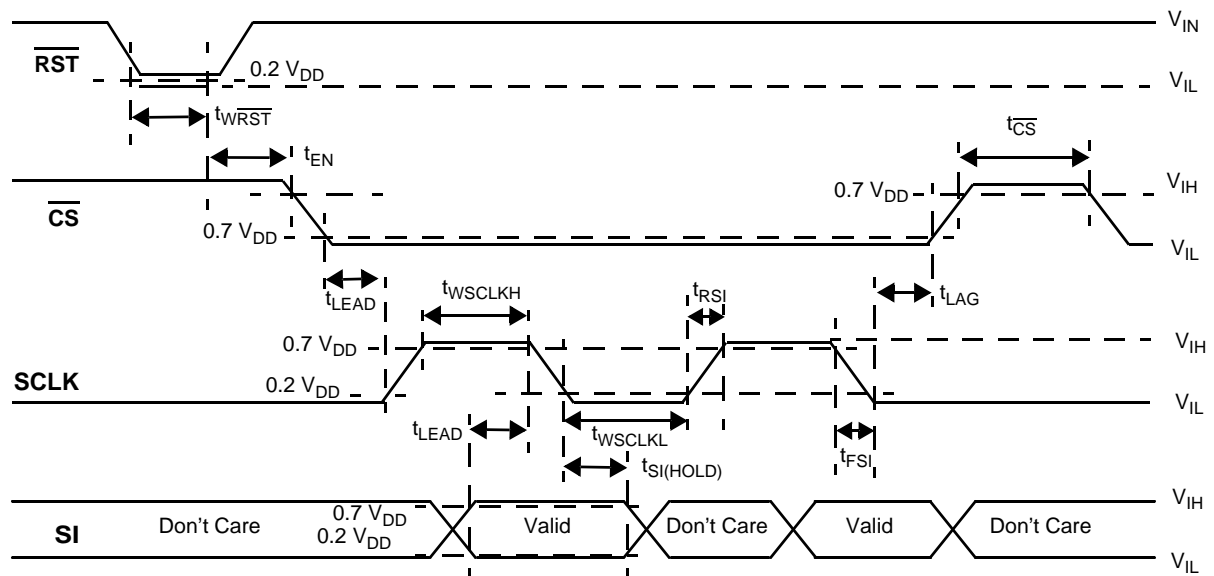

Figure 4. Input Timing Switching Characteristics
17. The 33976 shall meet all SPI interface timing requirements specified in the SPI Interface Timing section of this table, over the specified temperature range. Digital interface timing is based on a symmetrical 50 percent duty cycle SCLK Clock Period of 333 ns. The device shall be fully functional for slower clock speeds. Reference Figure 4 and 5.